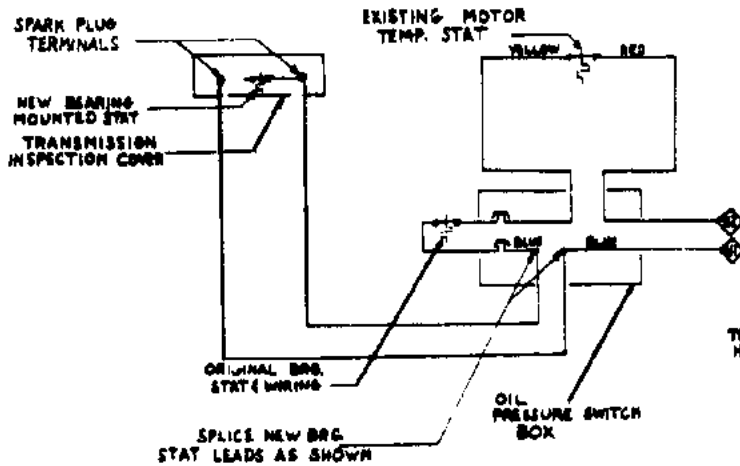

FIG. 1 CONVERSION WIRING
14. Wire the thermostat in series with the oil pressure switch and motor winding high temperature thermostat as shown in Figure 1 by cutting the blue wire from terminal 41 and splicing the new thermostat leads to the cut ends.